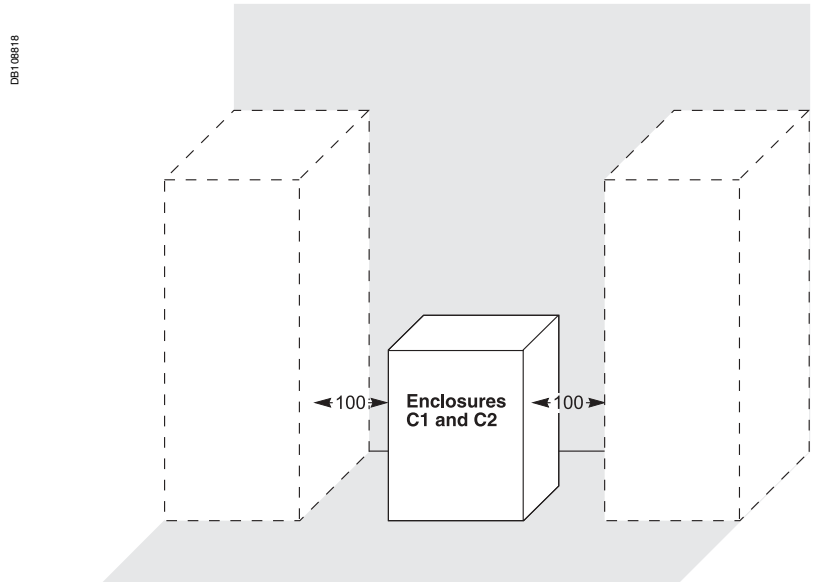
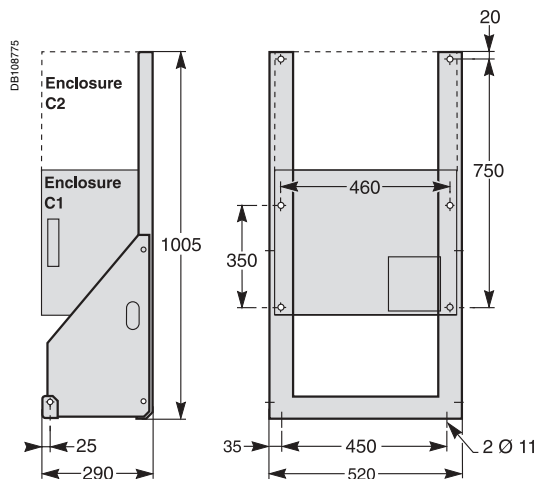

Fig. 2: enclosures C1 and C2.
Fig. 3: freestanding plinth for enclosures, cat. no. 52671.
- the enclosures to a wall or to a plinth (fig. 3) leave a space of 10 cm between the enclosure and another equipment (see page 3, fig. 2)